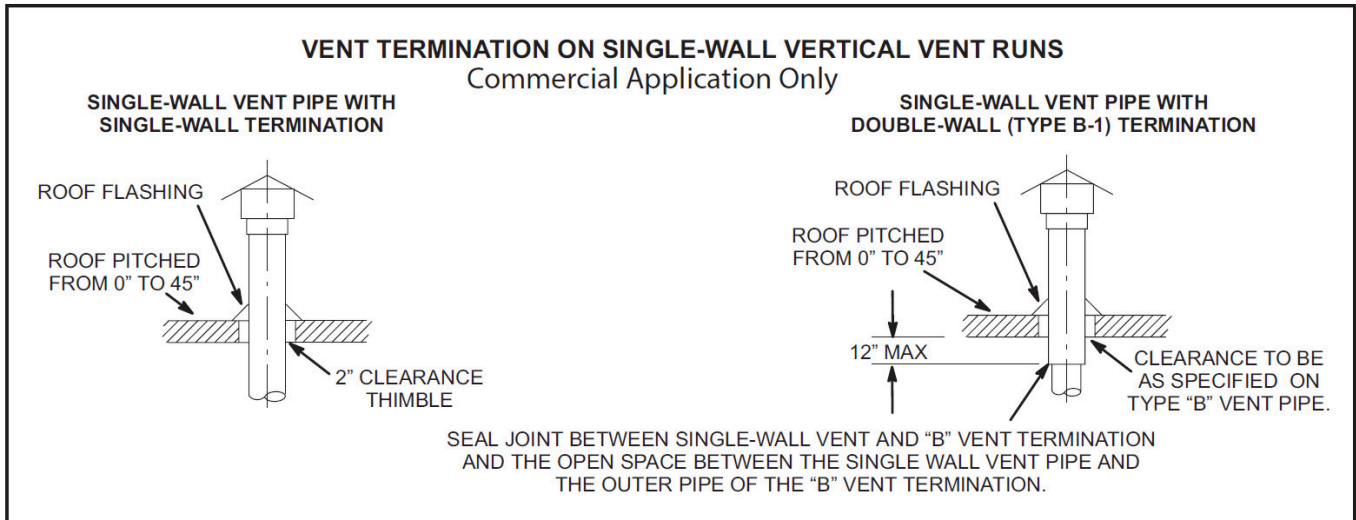
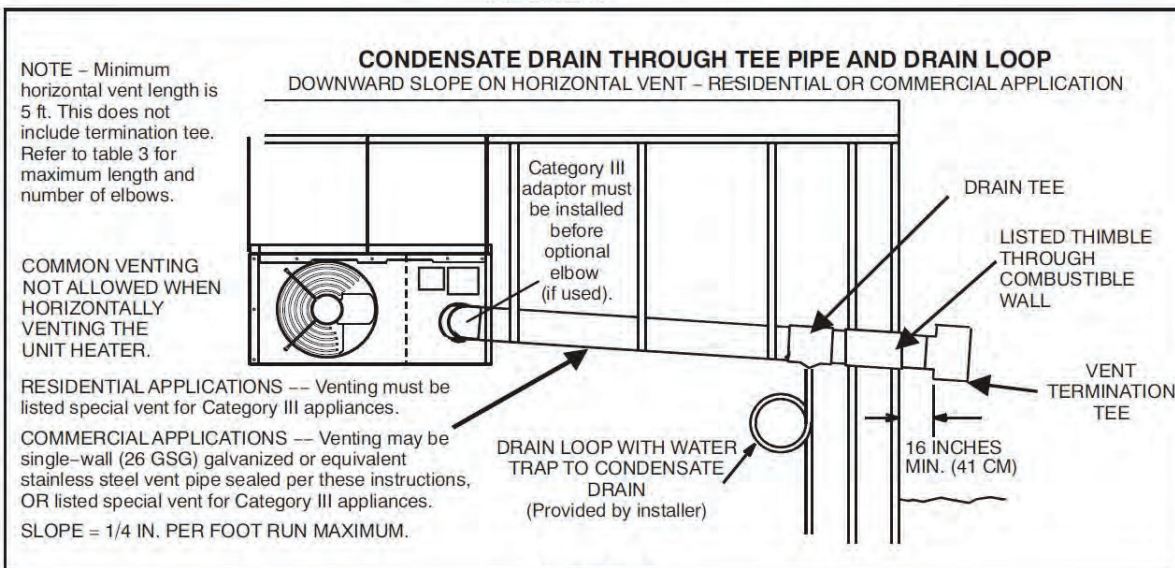

FIGURE 4
FIGURE 6
- 18 - Select a wall termination point that will maintain 1/4" rise per foot slope of horizontal run of vent pipe. In areas where authorities having jurisdiction permit, a downward slope of maximum 1/4" per foot is also acceptable. Condensate drainage can be collected in a tee pipe section (figure 4) with drain loop similar to one used for upward slope vent, or allowed to drip through the vent termination, if permitted by authorities (figure 6).